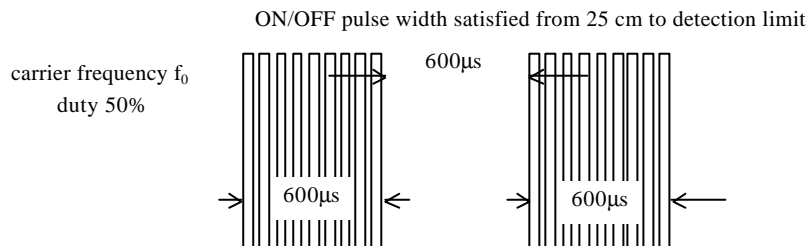

Fig 1. Burst Wave
- (1) Measuring placeIndoor without extreme reflection of light.
- (2) Ambient light source... Detecting surface illumination shall be 200±50Lux under ordinary white fluorescence lamp of no high frequency lighting.
- (3) Standard transmitter ... Burst wave indicated in Fig 1. of standard transmitter shall be arranged to 50mV_{p-p} under the measuring circuit specified in Fig 2.